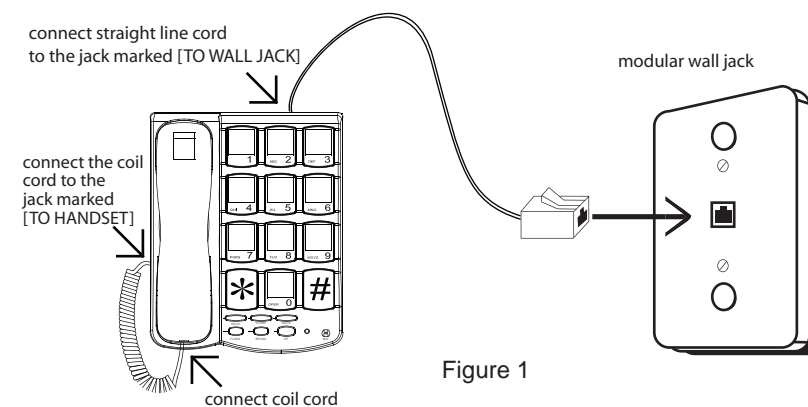

Figure 1
2. Insert the modular plugs of the coil handset cord into the jack of the telephone handset and into the jack marked "TO HANDSET" at the side of the telephone base (Figure 1).
3. Insert the straight-line cord into the modular jack at the back of the telephone marked "TO WALL JACK". (Figure 1)